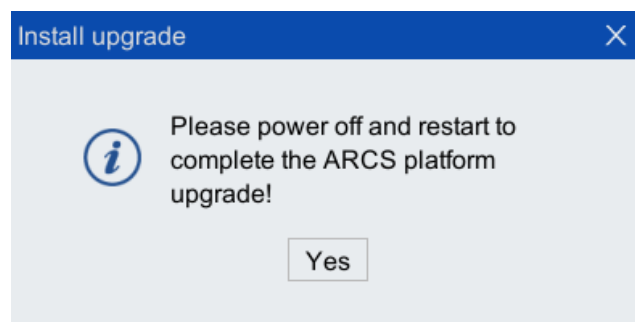

Figure 8-57 "Please power off and restart to complete the ARCS platform upgrade!" prompt box
Step3. After the upgrade is completed, the "Please power off and restart to complete the ARCS platform upgrade!" prompt box as shown in Figure 8-57 pops up. After clicking the <Yes> button, power off and restart to complete the platform update.